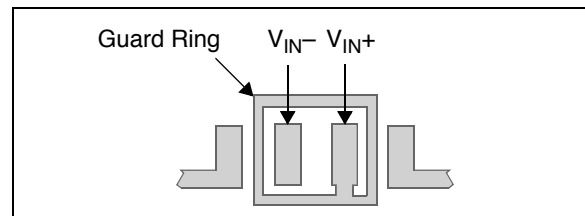

FIGURE 4-10: Example Guard Ring Layout.
The easiest way to reduce surface leakage is to use a guard ring around sensitive pins (or traces). The guard ring is biased at the same voltage as the sensitive pin. Figure 4-10 shows an example of this type of layout.
2. Inverting (Figure 4-10) and Transimpedance Gain Amplifiers (convert current to voltage, such as photo detectors).